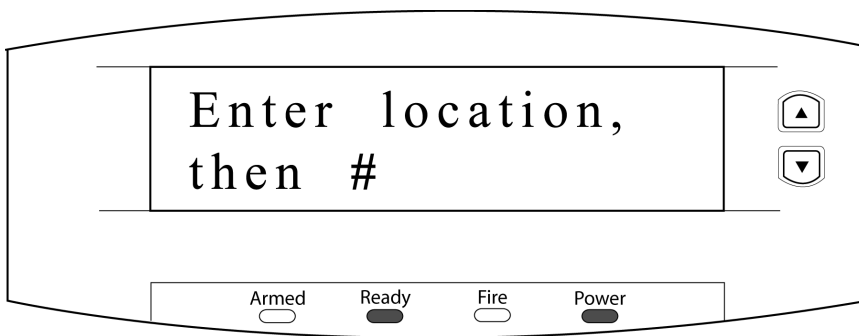

Figure 5: Alarm Panel - Enter Location
4. Select the 0 key followed by the # key. The alarm panel then prompts for the location (see Figure 5 on page 3). Each "location" on the alarm panel refers to a different task. Each location may then have a number of segments that each have their own purpose within the individual location.
2. Select the **\*** key to save the selection. Since Location 207 only has one segment to configure, the LCD returns to the Alarm Panel - Enter Location screen (see Figure 5 where the LCD will show the last location entered in the lower right corner).